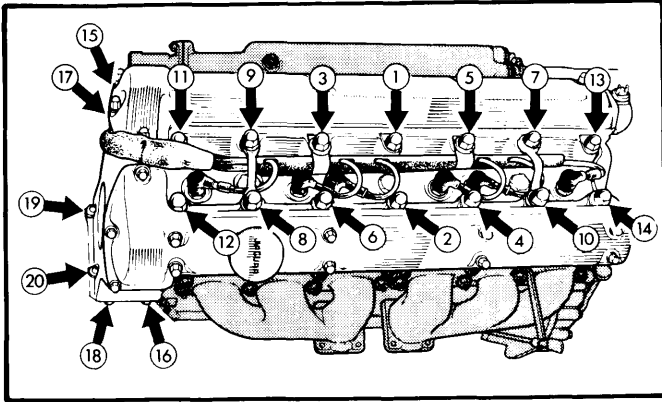

Fig. 2 Jaguar XJ6 Cylinder Head Tightening Sequence
2) Rotate camshafts until suitable timing gauge (C.3993) can be located in front flange slots (Fig. 1). Lower cylinder head into position, attach spark plug wire brackets and lifting brackets to appropriate head studs, then place washers and 14 large domed nuts on stud. Affix nuts and washers at forward end of head, then tighten all nuts (Fig. 2).